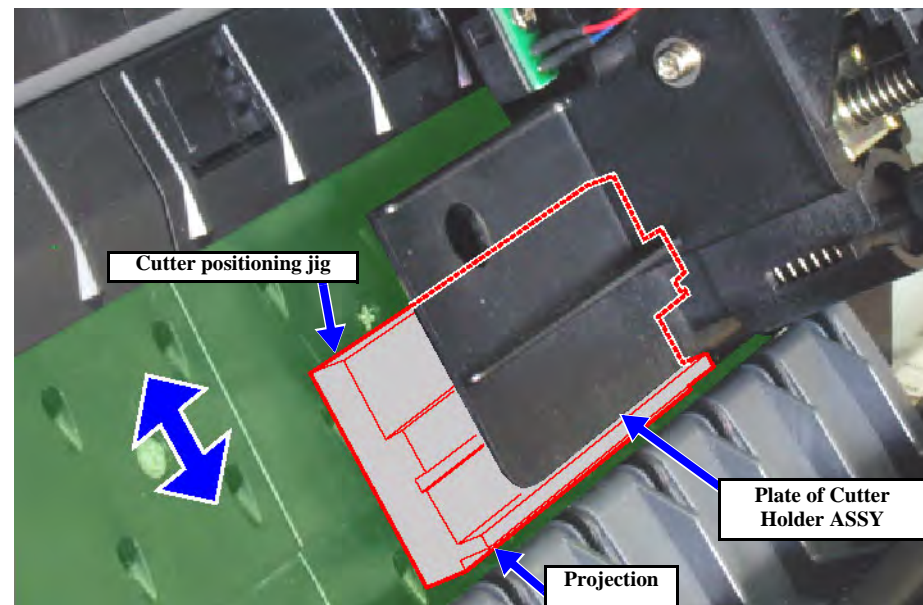

Figure 5-73. Paper Guide L up and down adjustment
3. Return the CR Unit to the cap position and set the cutter positioning tool at the right end of the Paper Guide L. (See Figure 5-73)